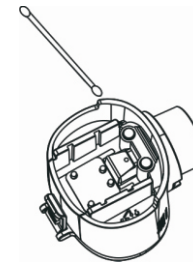

Fig.18
- Use cotton bud with ethyl alcohol to clean the 5 golden poles contact on the nebulizer main unit (3 poles) and underneath the transducer module (2 poles) (Refer to Figure 18, 19)